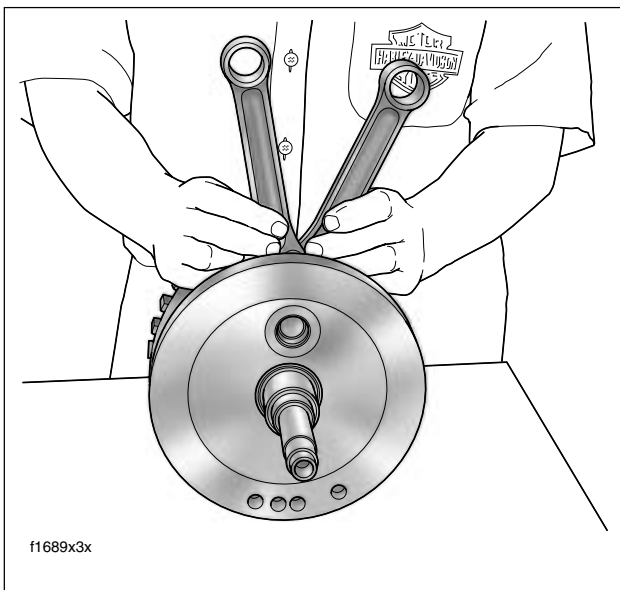

Figure 3-135. Check Connecting Rod Bearing Clearance
2. Orient the assembly as shown in Figure 3-135. Holding the shank of each rod just above the bearing bore, pull up and down on the connecting rods. Any discernable up and down movement indicates excessive lower bearing clearance. Replace the flywheel/connecting rod assembly.